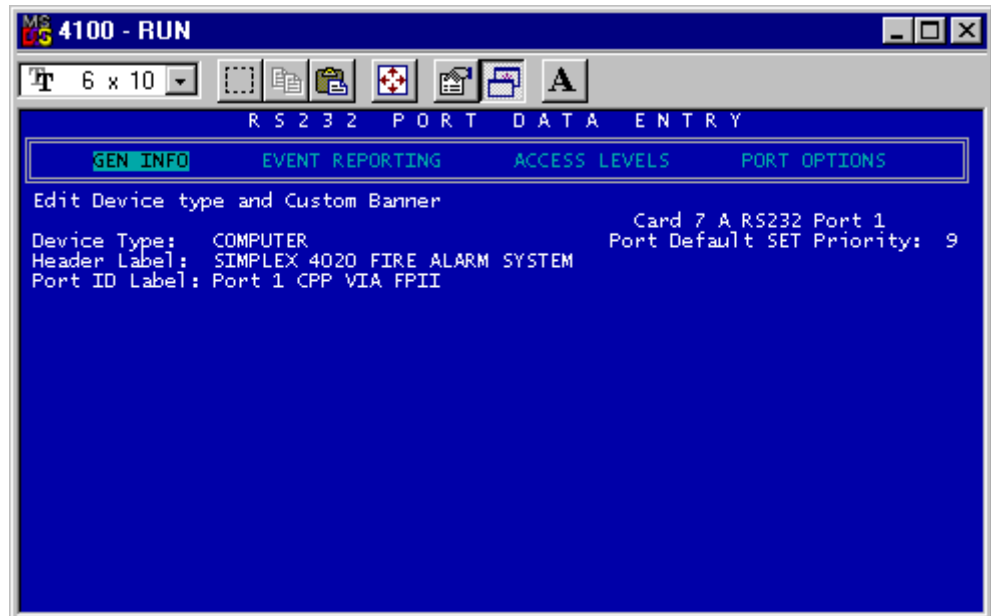

Figure 13. RS232 Port Data Entry Screen
- Press Enter to access the RS232 Port Data Entry screen (see Figure 13).